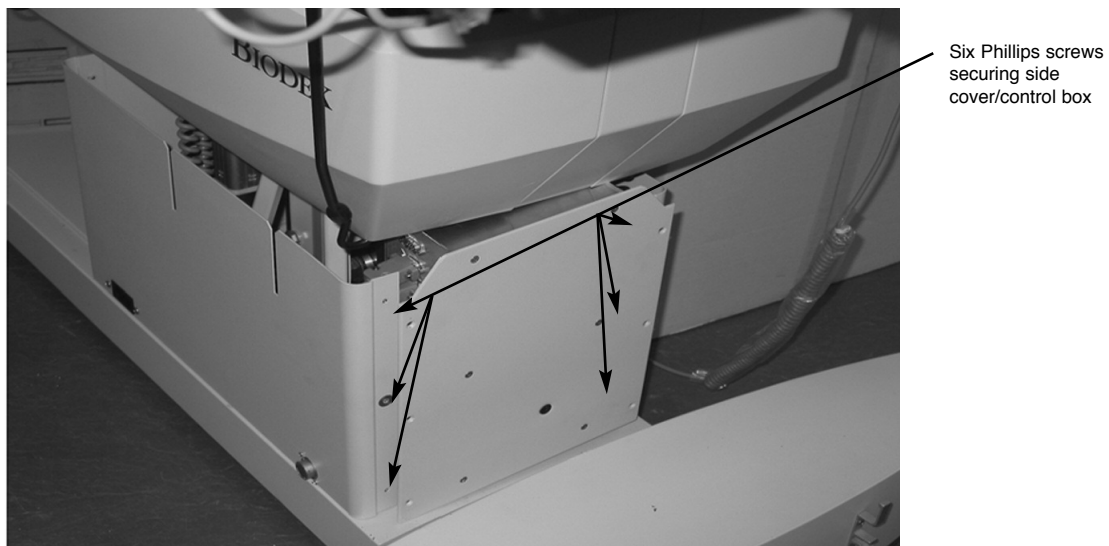

Figure 1.2.
3. Remove the six screws that secure the lower back panel (see Figure 1.2). Remove the lower back panel. Slide the control module out carefully. Make sure that the connecting cables are not being damaged as you slide the box out.